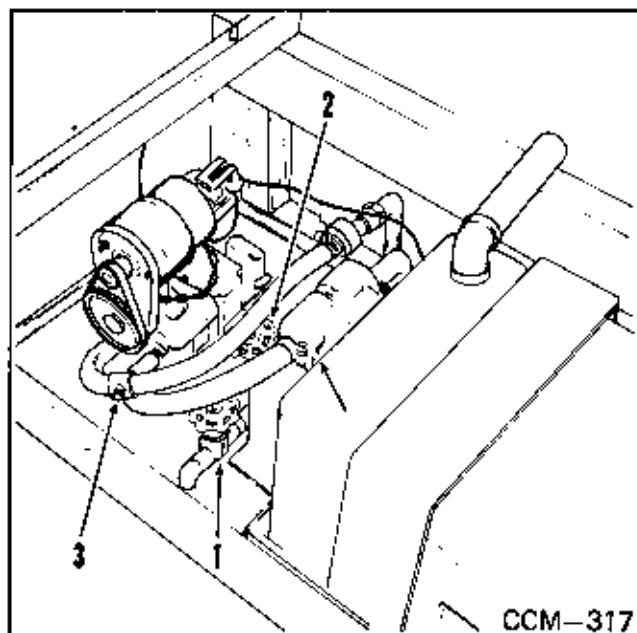

Fig. 21
1. Open valves (1 and 2), (Fig. 21) to drain water tank, pump lines, and water lines. Open in-line water pump valve. (No. 3) (Fig. 21)